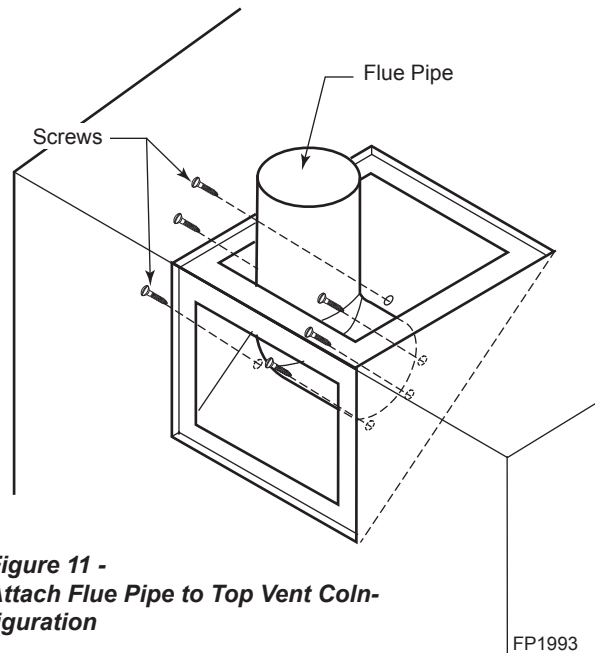

Figure 11 - Attach Flue Pipe to Top Vent Configuration
5. Replace flue pipe to top of firebox. Ensure the gasket is in place and undamaged. Secure with eight (8) screws. *Figure 11*
7. Refit the flue pipe adapter and gasket to the top of fireplace. Secure the adapter with eight (8) screws removed in step 1.